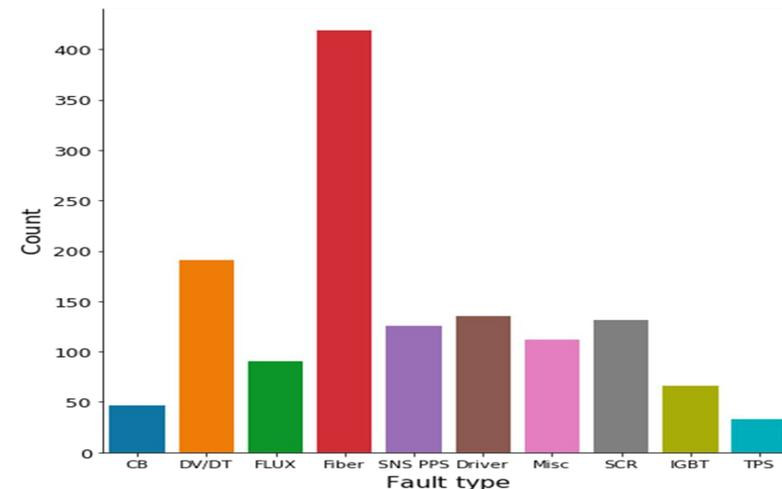

Figure 7. Grouped faults
- The grouped faults can be seen in Fig. 7, which represents all faults in all modules.